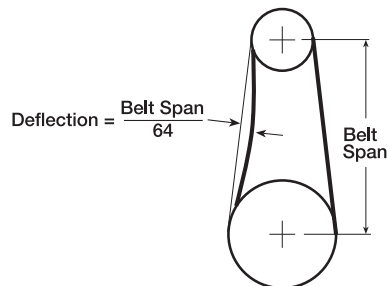

Figure 18b
- Sizes 180-480:** Belt tension should be adjusted to allow 1/64 in. (0.397 mm) of deflection per inch of belt span. For example, a 15 in. (381 mm) belt span should have 15/64 in. (0.234 mm) (or about 1/4 in. (6 mm)) of deflection with moderate thumb pressure at mid-point between pulleys; see *Figure 18b*.